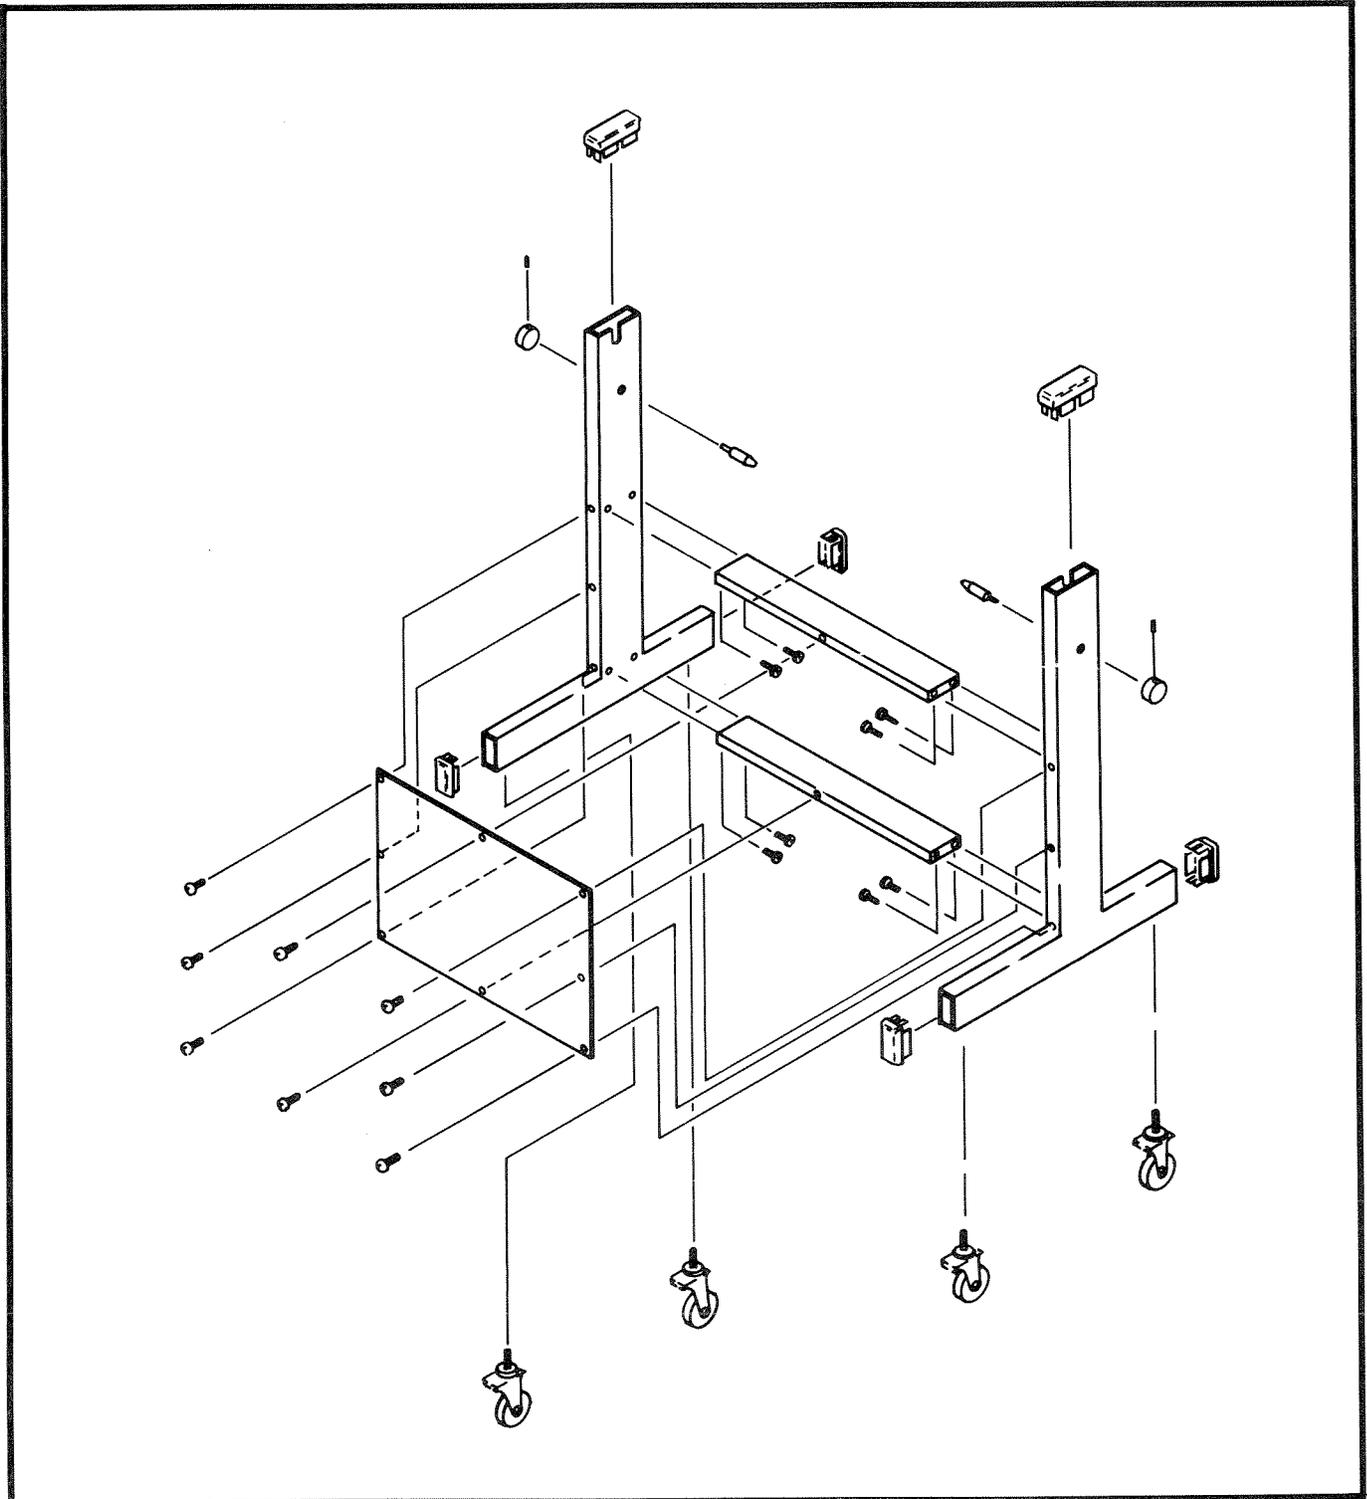

Figure 2-3. Exploded View of SU-14 Stand
STEP 2 Assemble the SU-14 stand according to Figure 2-3. First install the 2 cross braces with the 2 screws into each of the vertical support members to attach each of the cross braces. Make sure that the cross braces are installed with the tapped screw hole facing forward.